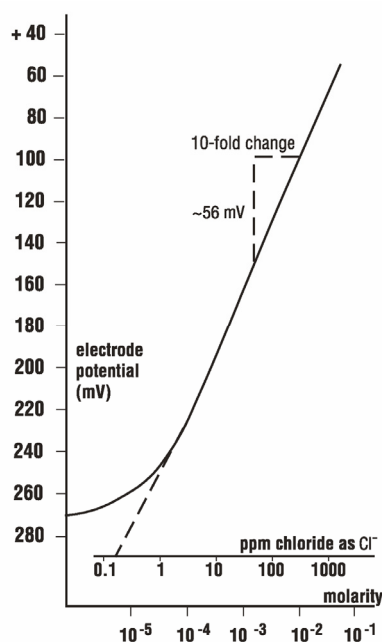

Figure 1: Typical calibration curve
6. On a semi-logarithmic graph paper, plot the voltage readings (linear axis) against the concentration (logarithmic axis). See Figure 1 for a typical calibration curve.